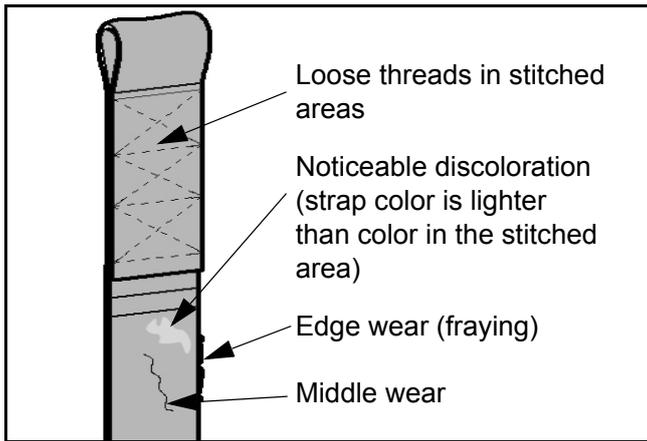

Fig. 16
- 2) Look for any signs of wear or discoloration (see Fig. 16 below).